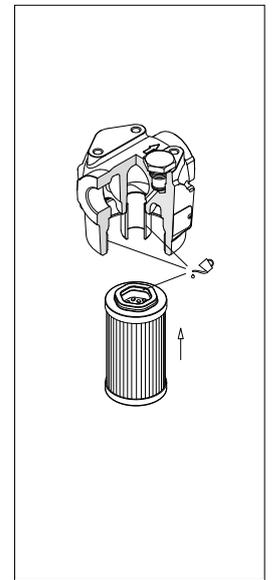

fig. 14
- (Fig. 14) Lubricate with the operating fluid the filter element O-ring, the housing tap and cavity, then fit the filter element on the tap. Pay attention not to damage the Hex Ring seal